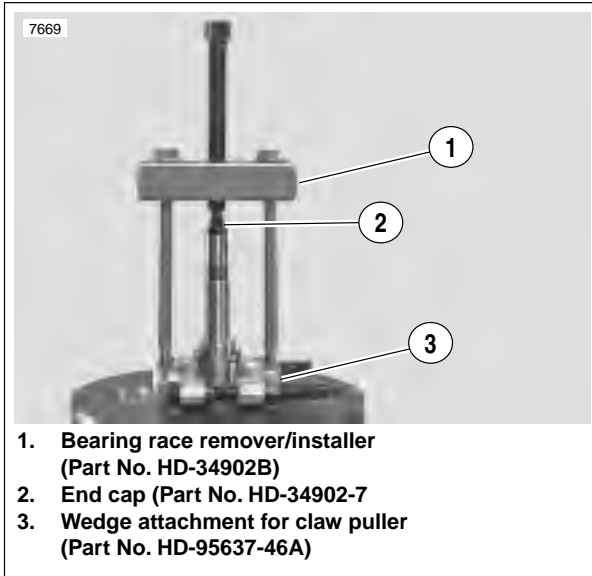

**Figure 3-145. Pinion Shaft Bearing Tools**
See Figure 3-145. Dimensions are shown for fabrication of tools used in pressing the outer race into or out of crankcase.
- For necessary dimensions for constructing a press-on tool for the pinion bearing inner race see Figure 3-145.